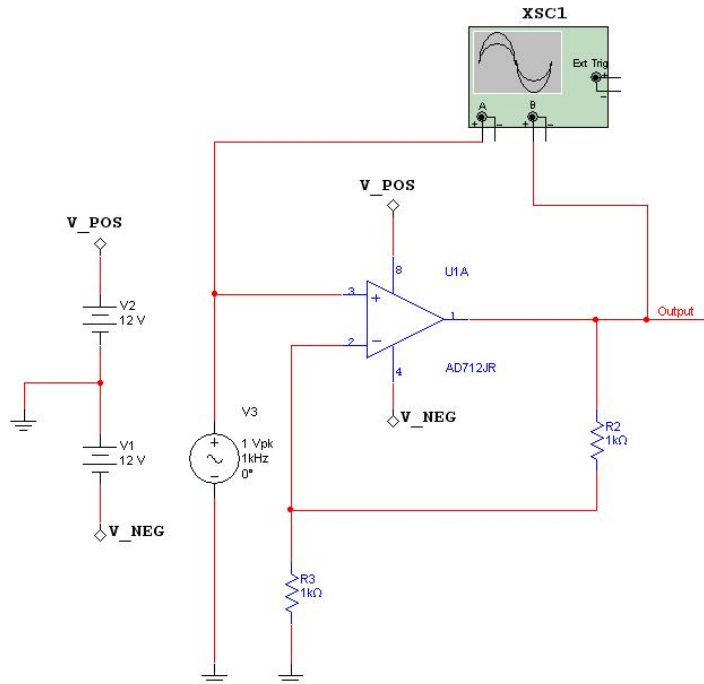

Figure 12. Ready to Simulate
2. Wire the Channel **A** and Channel **B** terminals of the oscilloscope to both the input and output of the amplifier circuit (as shown in Figure 12).